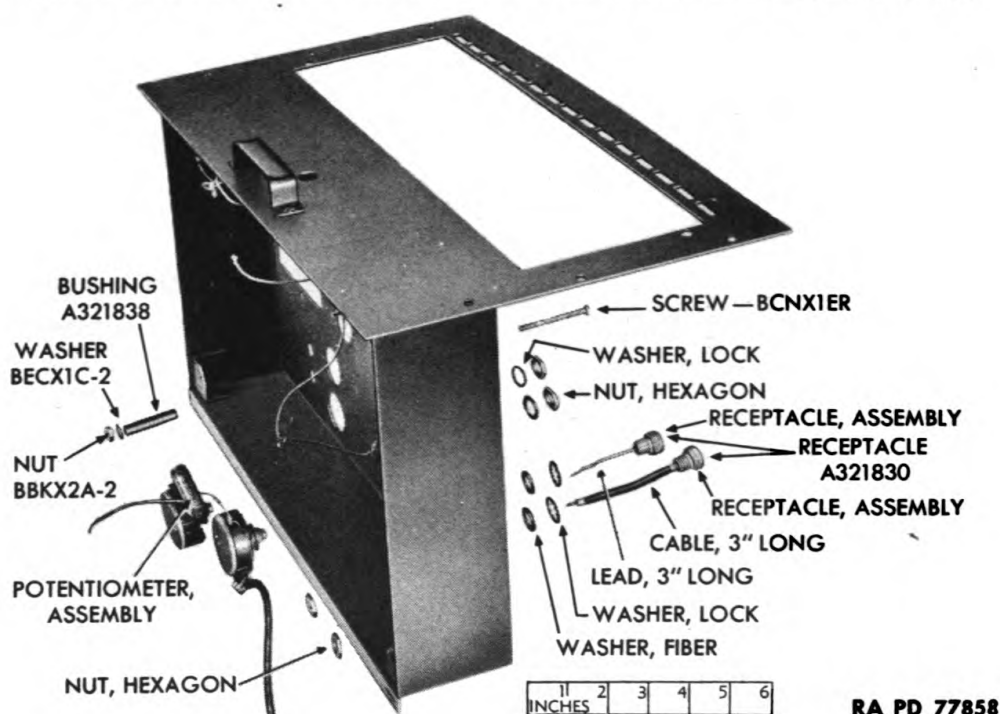

Figure 24 — Removal of Potentiometer and Receptacles From Amplifier
(19) The potentiometers (fig. 24) are removed by unscrewing the hexagonal nuts from the potentiometer shaft housings. The receptacles A321830 are removed by unscrewing the hexagonal nuts holding them to the chassis. Do not misplace the lock washer or the fiber insulating washers.